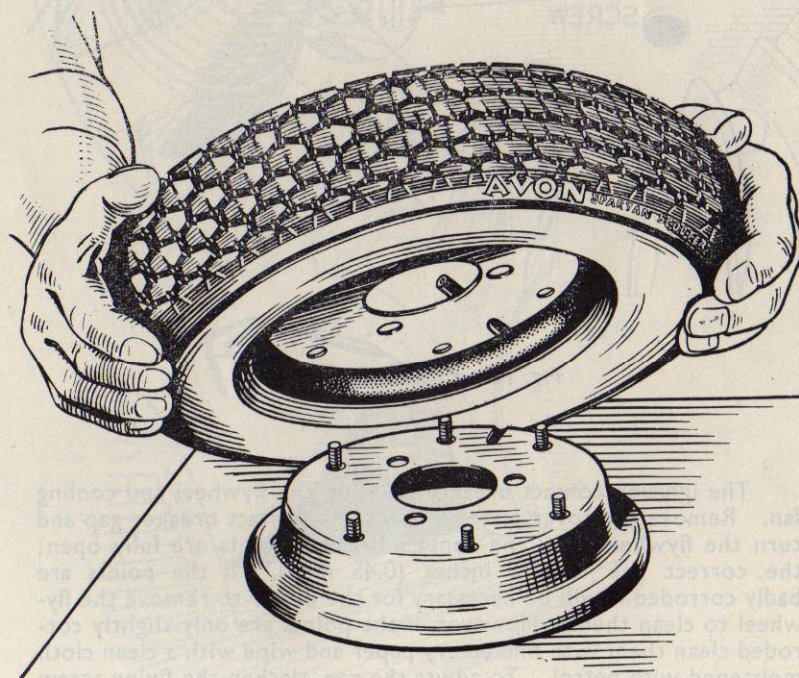

Fig. 11. Replacing second half of Wheel.
6. Lift the assembly and place it on the other half-wheel so that the bolt holes and valve hole coincide, and press down evenly (Fig. 11).